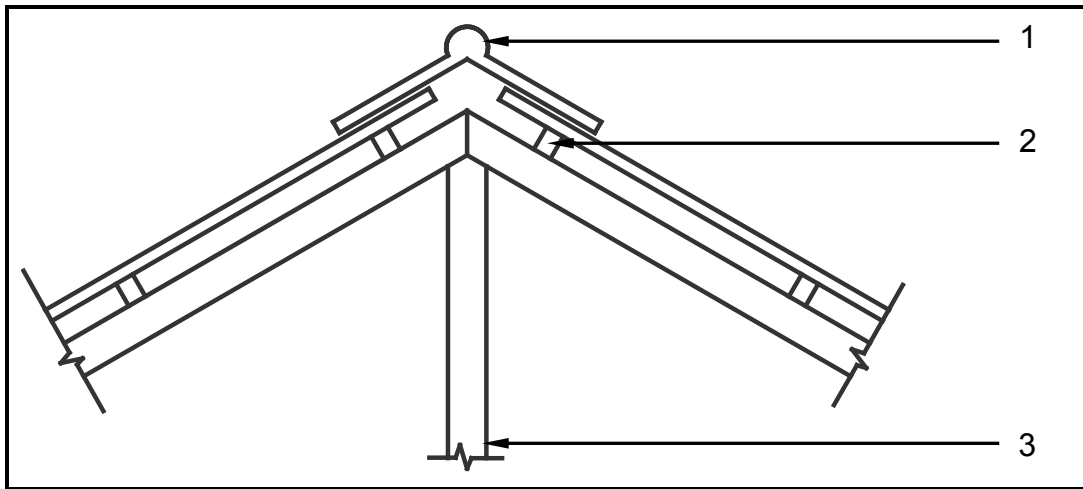

FIGURE 2.9
2.9 FIGURE 2.9 below shows the top part of a roof construction. Study the illustration and answer the questions that follow.